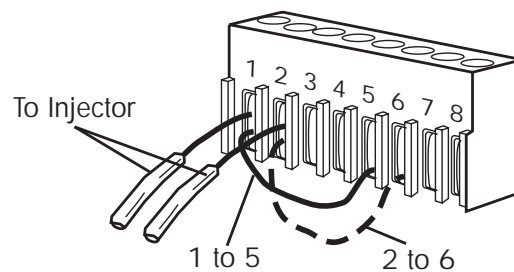

Figure 2-5 Connecting Two-Channel Detector
**Note:** One injector can trigger both channels of the Bus SAT/IN module. Instead of using two inject start cables, use a short piece of wire to connect position 1 to position 5, and position 2 to position 6 (Figure 2-5).